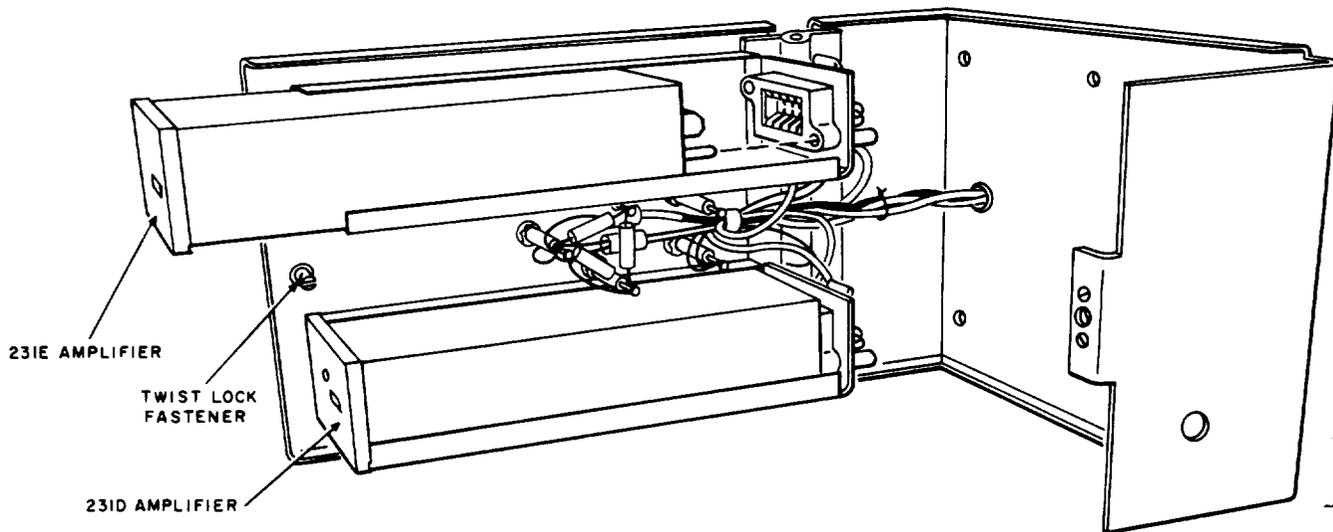
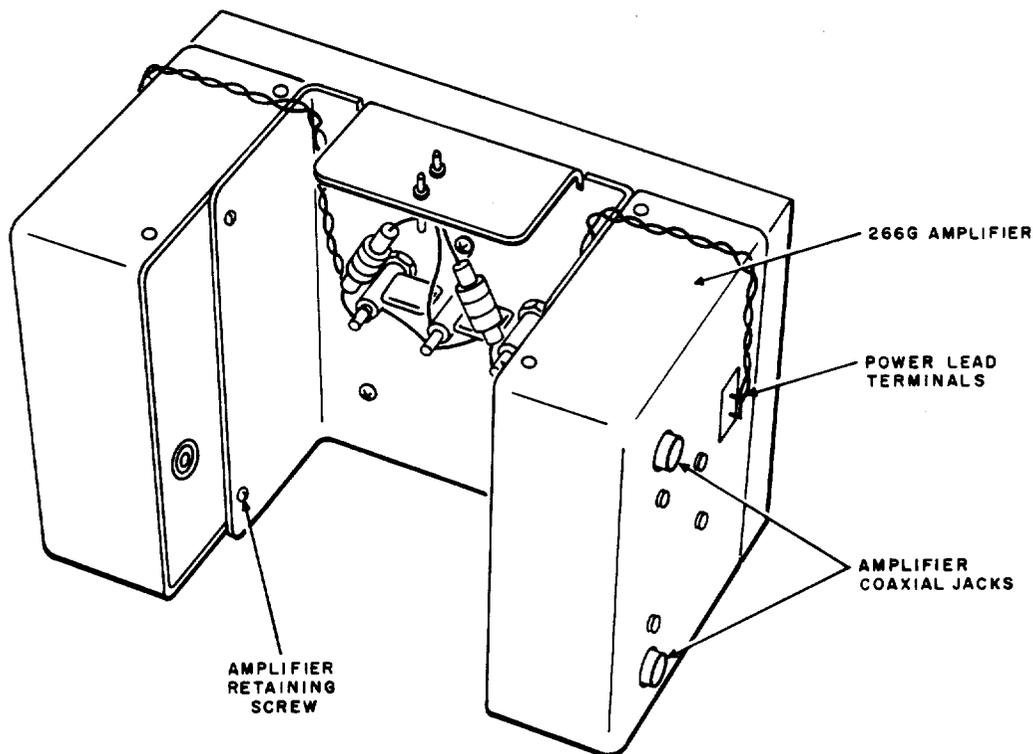

Fig. 3—ED-50769 Amplifier Assembly—Front Cover Plate Open
Fig. 4—ED-51510 Amplifier Assembly
4.02 The J68829A amplifier is replaced by 231D and 231E individual amplifier units mounted on the ED-50769 amplifier assembly shown in Fig. 3. The J68829B amplifier is replaced by two 266G amplifier units mounted on the ED-51510 amplifier assembly shown in Fig. 4. When the solid-state units are employed, the Sensitrol relays (3.02) serve no purpose and ordinarily are removed from the equipment panel.